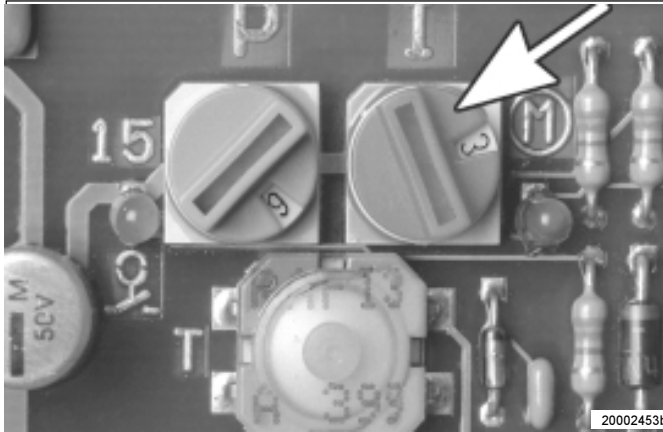

Fig. 10 - Rotary switch - Operating time
- When the machine contact or the driving switch is switched off, the operating times which have already elapsed are stored and added up until the time which has been set on the red rotary switch (Fig. 10) is reached. After this, the lubrication cycle starts again.